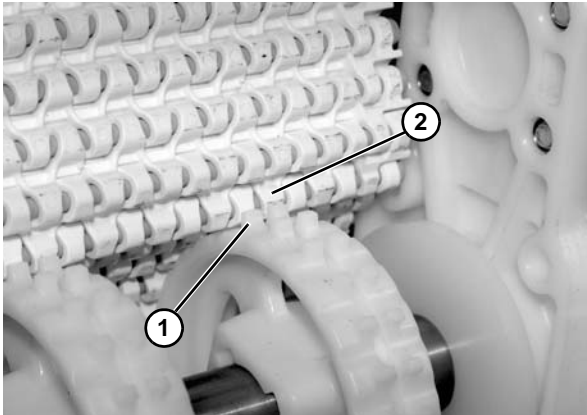

Figure 15
3. Wrap the belt around the drive end of the conveyor, making sure the sprocket teeth have engaged the belt, with concave teeth (**Figure 15, item 1**) mating with rounded section (**Figure 15, item 2**) of belt.